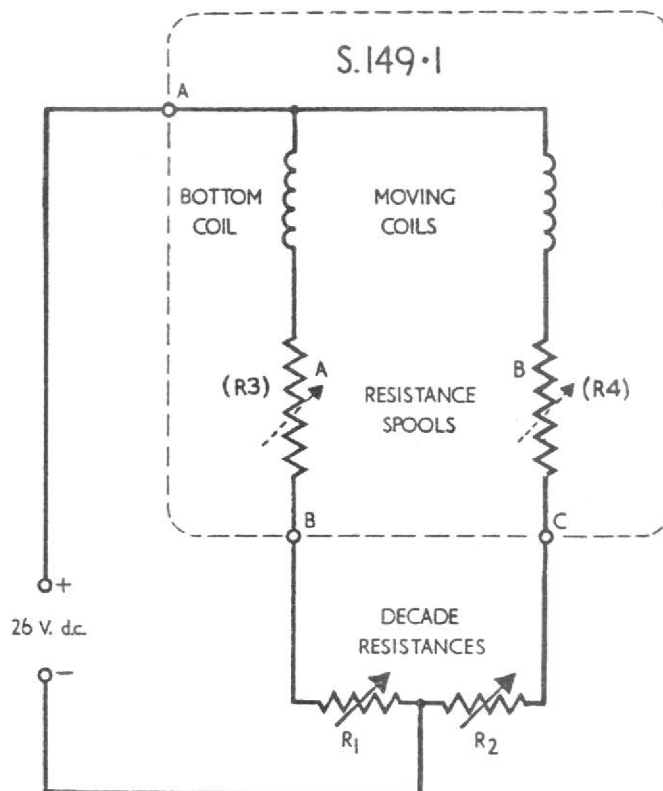

Fig. 2. Test circuit diagram. Pressure Indicator
(1) Preparation
- (b) Connect the spools of pre-determined value in circuit, substitute decade resistance boxes R3 and R4 for unadjusted spools, and resistance boxes R1 and R2 for the pressure transmitter (see Fig.2).
(2) Procedure